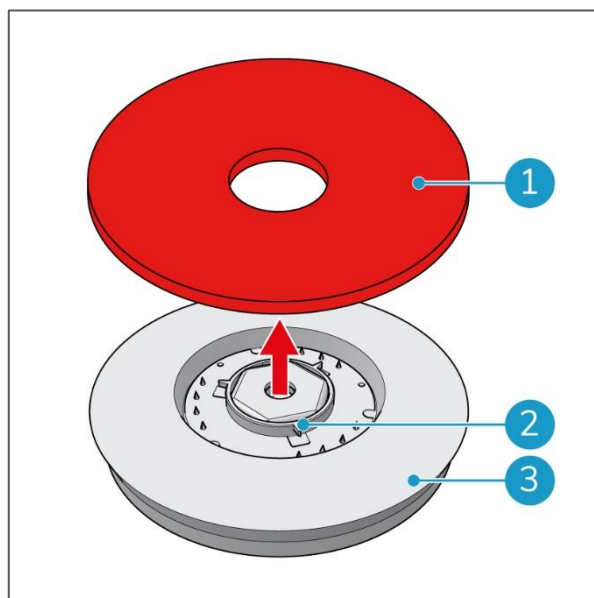

Figure 52
2. Check the condition of the pads (Figure 52, pos 1). If they look compressed, they lose their function and they need to be replaced.
3. Pull the pad out of the three locking tabs (Figure 52, pos 2) and remove the pad from the pad driver (Figure 52, pos 3).